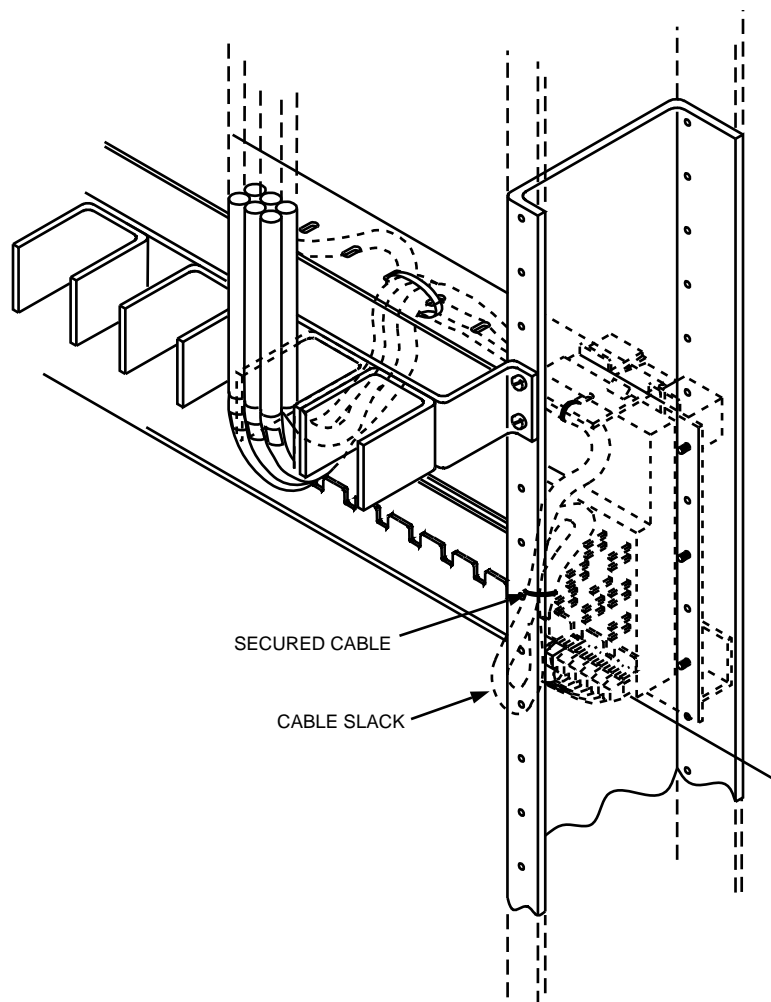

Figure 8. Form Cable and Install Blocks
2. Form cable slack and secure (see Figure 8). Leaving cable slack simplifies any future connecting block removal or replacement procedures that may be necessary.